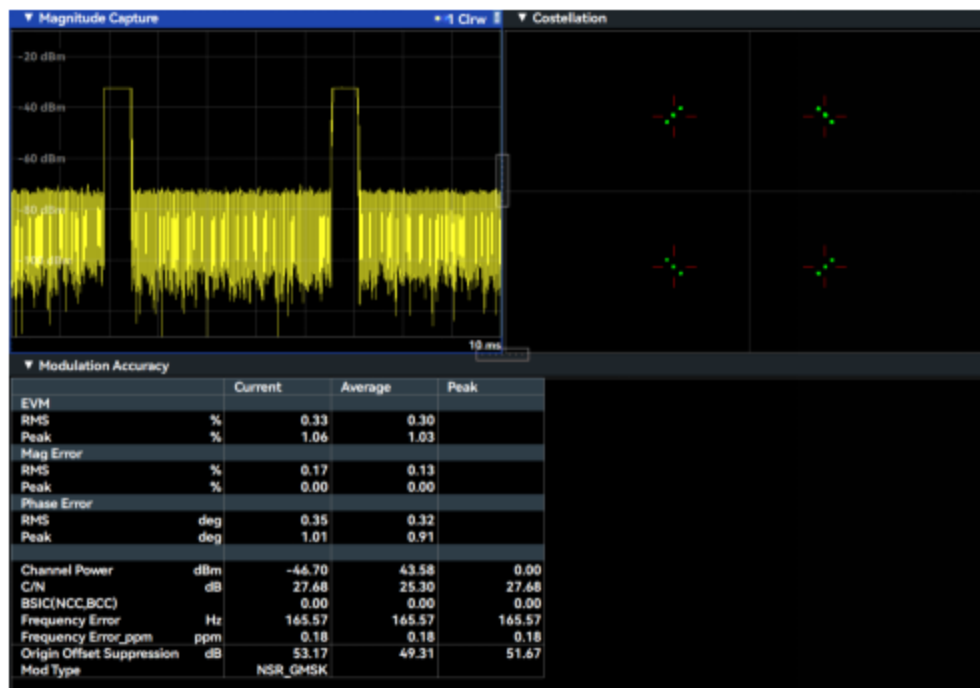

Figure 10.2 Results of the EVM test
Step 5. After completing the above settings configuration, the instrument can identify the GSM signal and display the measurement results in the screen. The test results are shown in Figure 10.2: